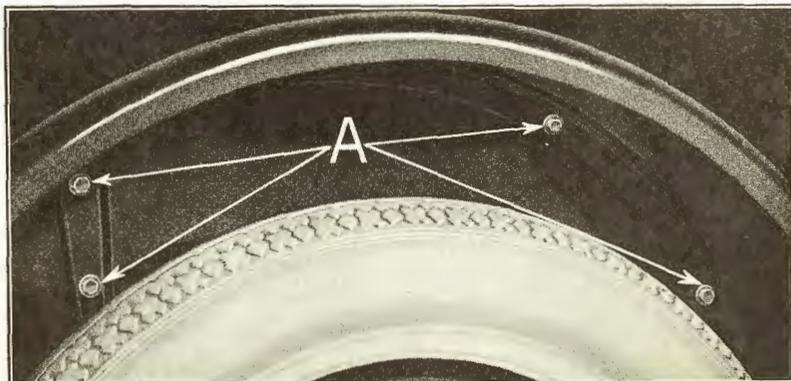

Fig. 541
Run off nuts and withdraw the two fender to dust shield bolts "B". Run out the four fender to body bolts (see "A" Fig. 541). (The nuts
- 1162** To install the new type fender, place lockwashers over the ends of the four fender to body bolts. Position fender against body and line up the bolt holes. Insert the four fender to body bolts (see "A" Fig. 541) through fender and run them down into the fender bolt nuts which are held stationary in body. Do not tighten until all bolts have been entered.